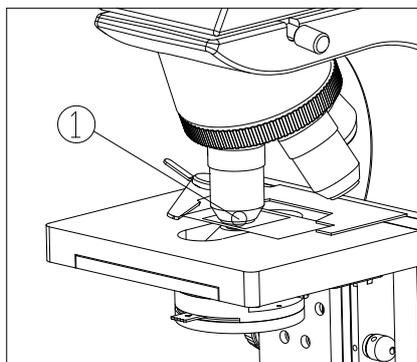

Fig. 15
2. Place a drop of oil ① on the specimen (see Fig. 15).